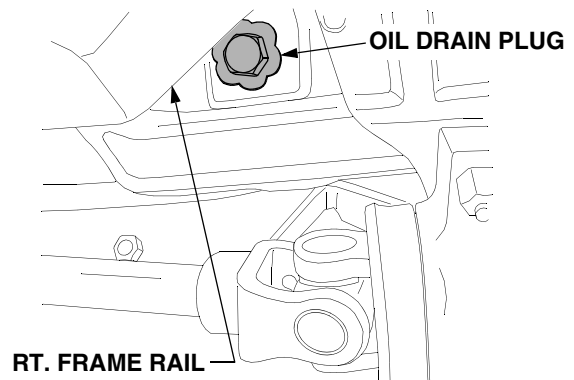

Figure 52
- Locate the engine drain plug on the *bottom/right* side of the engine (See Figure 52). Place a suitable container below the drain plug to collect the old oil.
- Reinstall the drain plug in the engine and clean up any residual oil. Refer to Figure 52.